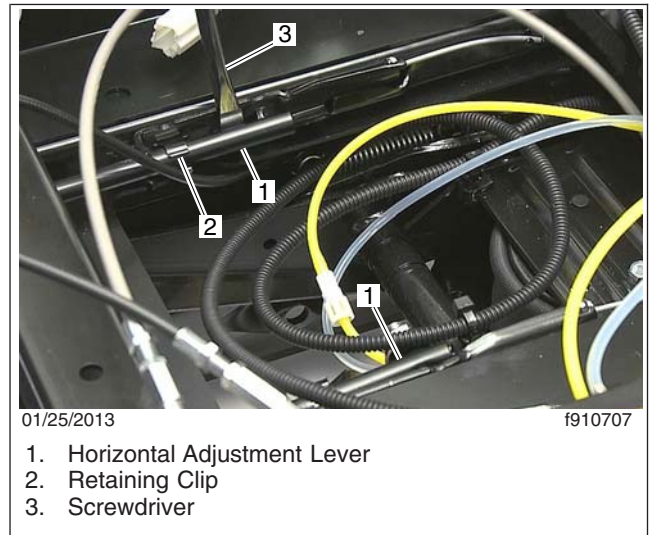

Fig. 2, Removing the Horizontal Adjustment Lever
2. Using a large flat-blade screwdriver, pry the lever legs out of the clips on each side of the seat frame. See Fig. 2.